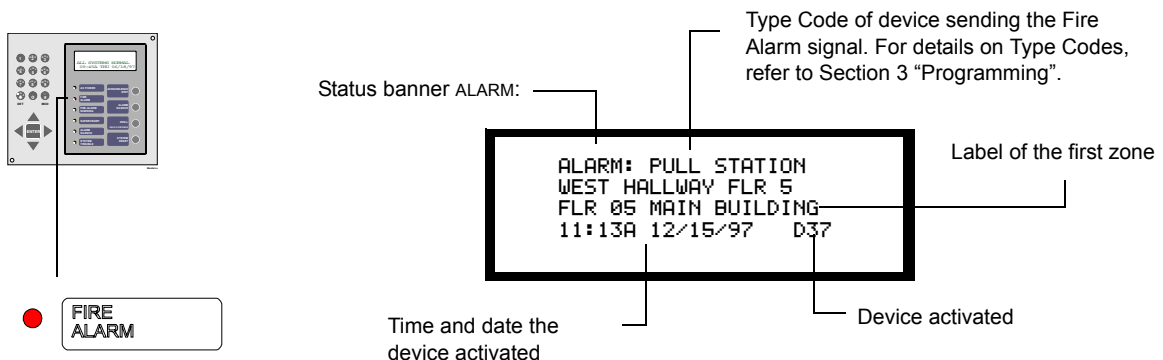

Figure 104 Sample Display for an Fire Alarm
When a fire alarm occurs, the control panel goes into a fire alarm condition. Figure 104 shows a sample LCD display for a control panel when a detector goes into alarm:
- Displays a status banner of ALARM along with specific information about the activated device as shown in Figure 104.
When a supervisory signal occurs, the control panel indicates a supervisory condition. Figure 104 shows a sample LCD display for a control panel with a supervisory signal.